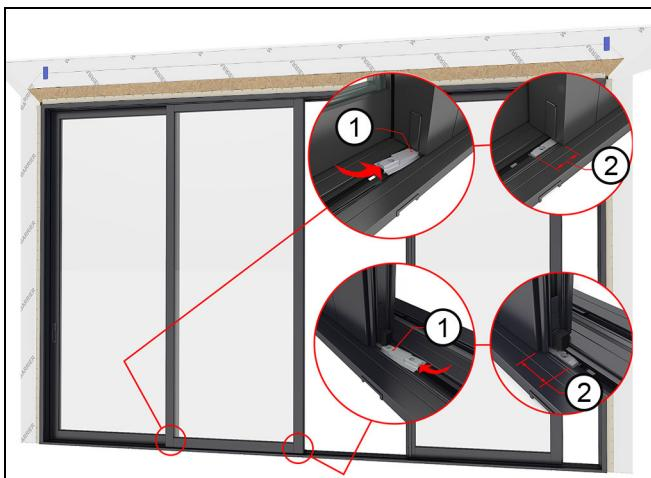
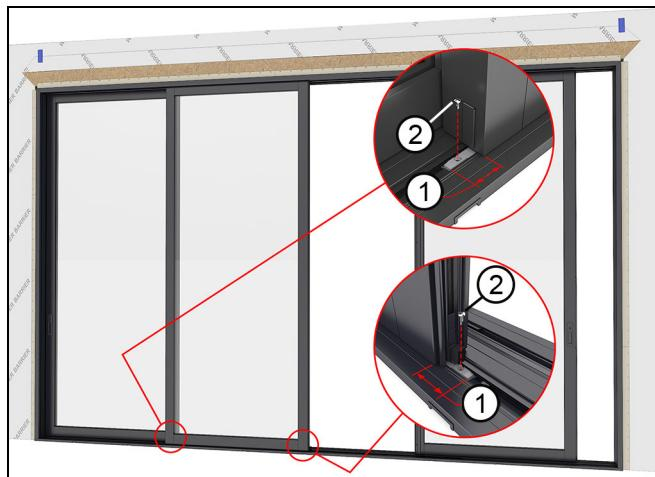

Figure 167 XOOX
Figure 168 XOOX
10. On both sides of the (J) panel, snap the lower stationary brackets onto sill, then slide underneath the stationary panel until fully seated. Each bracket should stick out approximately $2 \frac{1}{4}$ " (57) from panel when fully seated. Fasten the brackets with #8 x 1/2" self drilling screws. See Figure 167 and Figure 168.